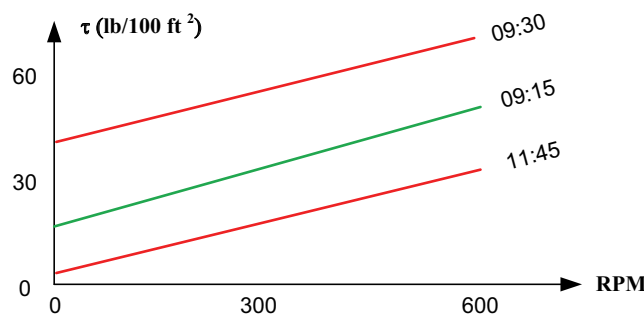

Figure 1-4a: The rheology of the mud at 3 time points
- b) Rheology monitoring. First we plot the evolution of the rheology vs. time, as shown in Figure 1-4a.